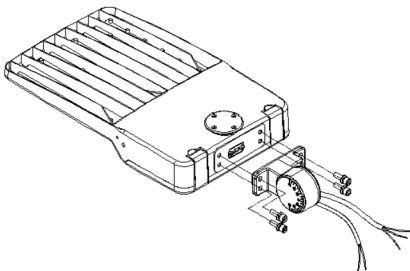

Fig. 9
1. Assemble Slipfitter to Fixture, as shown in Fig. 9.